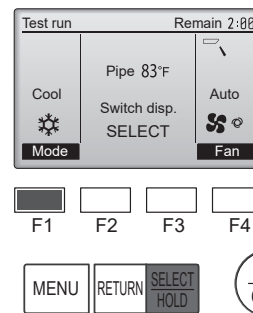

Fig. 7-5
- (1) Press the [F1] button to go through the operation modes in the order of "Cool" and "Heat". (Fig. 7-5)